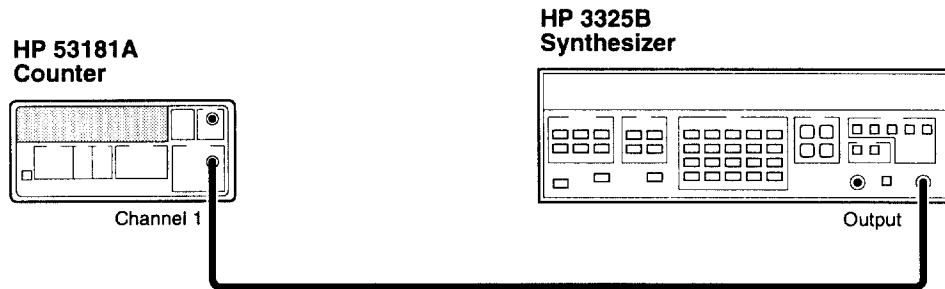

Figure 1-17. Peak Volts Test Setup
- 1 Connect the equipment as shown in Figure 1-17.